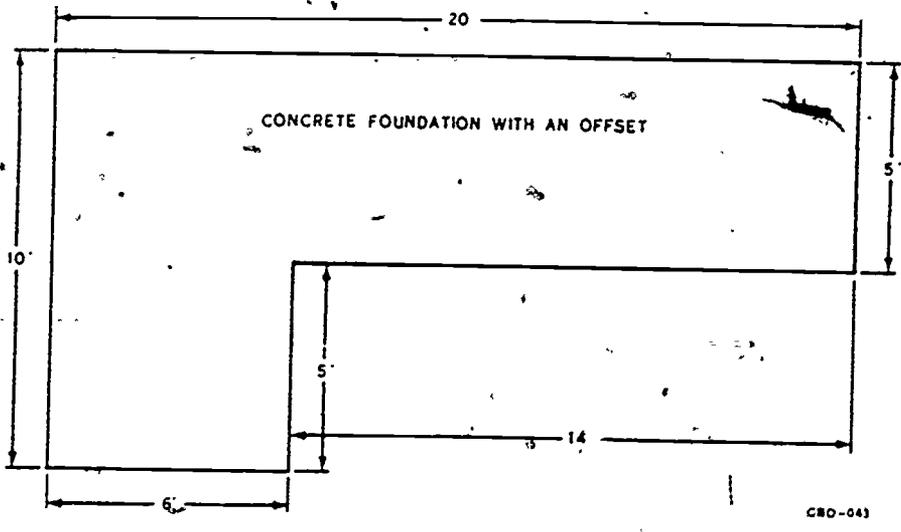

Figure 6 Building with Offset
11. Follow the same procedures and lay out a building with an offset (see figure 6).